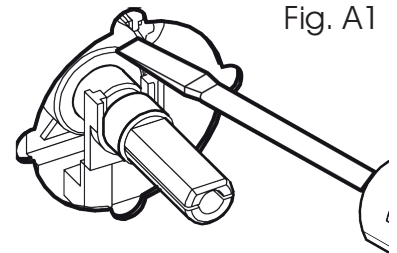

Fig. A1
2. Remove the knob of the corresponding gas tap and insert a screwdriver in the end part of the tap or in the screw (fig. A1, A2, C2 DUAL).